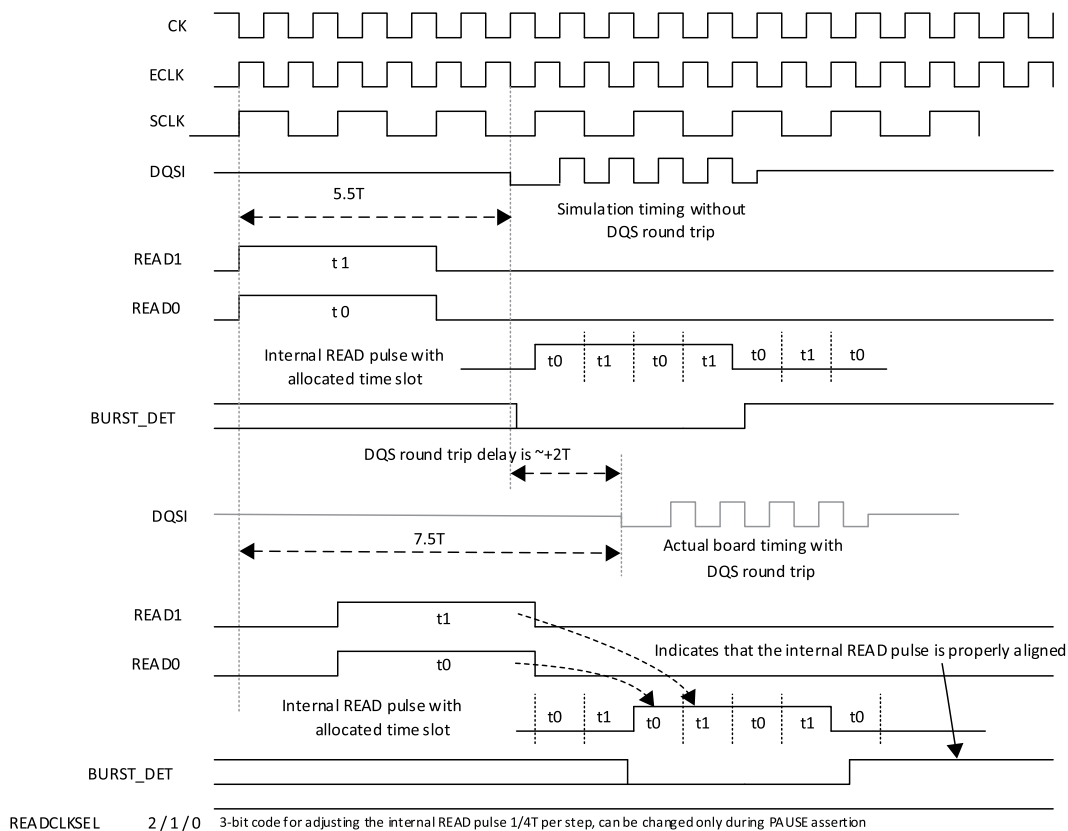

Figure 6.8. READ Signal Training Process
1. The memory controller sets READ1/0 to an initial position before starting the read pulse training. READ1/0 must be asserted for the number of SCLK cycles that is equal to one-fourth of the current read burst length, as listed in Table 6.3. Each READ bit (READ1 or READ0) in the system clock domain is translated to a 1T time slot of the memory clock domain, as shown in Figure 6.8.
3. To shift the READ pulse timing window, READ1/0 can be moved to the next cycle. If a READ bit is asserted in the next cycle while the other READ bit remains in the current cycle, only the corresponding time slot on the READ pulse moves to the next allotted slot. Therefore, only READ0 must be moved to the next cycle if the READ pulse needs to be shifted only by 1T. However, if only READ1 is moved to the next SCLK cycle, then the READ pulse gets two short pulses in wrong timing. Since READCLKSEL2/1/0 covers a whole 2T timing, it is recommended that both READ1 and READ0 be moved to the next cycle together to shift the READ pulse to the next 2T window as the example shown in Figure 6.8.
Figure 6.8 shows an example of a burst length 8 (BL8) read operation. The bottom side of the diagram indicates the case that the incoming DQS (DQSI) gets slightly more than 2T delay after a round trip. Due to this round-trip delay, both READ1 and READ0 need to be shifted to the next SCLK cycle so that the internal READ pulse gets a 2T shift. Then, the READCLKSEL2/1/0 signals can be used to fine-tune the READ signal position throughout the training process. When any of READCLKSEL2/1/0 is changed at any time after a system reset, the PAUSE input to DQSBUFM must be asserted before 4T of the change and remain asserted for another 4T after the change to avoid glitches and malfunction.